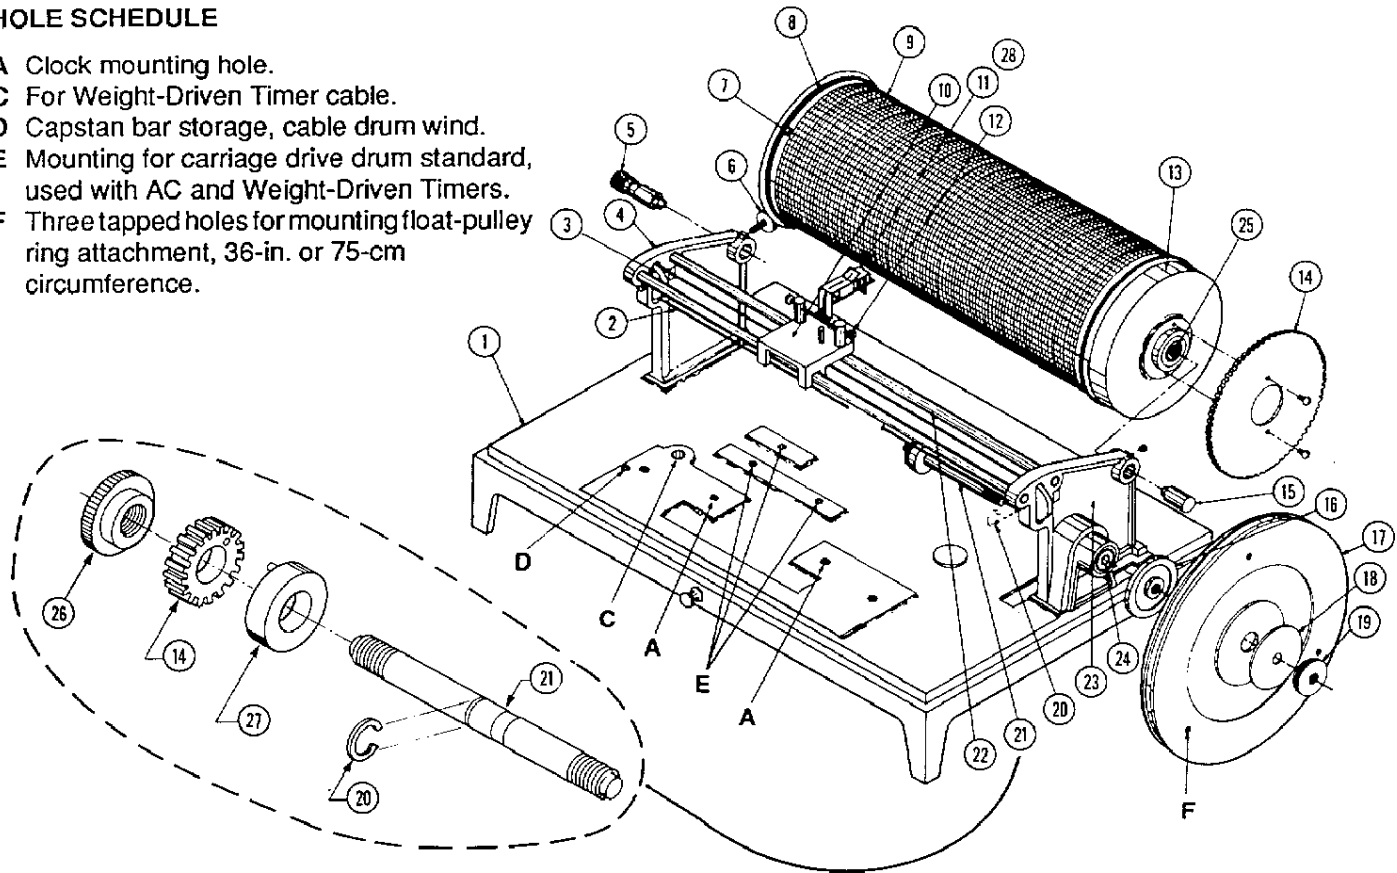

Figure 6. Exploded View of F68
Step 2. Refer to Figure 6. Roll both of the chart holder springs (item 8) to the gear end of the chart drum (item 13). Remove the used chart.
Step 3. Slip a new chart from the far side and underneath the chart drum, pulling the edges together and lapping the trimmed edge over the margin. See that the slot in the left chart margin engages the pin (Figure 6, item 7) in the chart drum. Match the lines and push the chart against the left flange of the chart drum. Replace the spring chart-bands at the left end and at the right end of the chart.
Set the marker to its approximate position by slowly pushing the marker's carriage (Figure 6, item 10) to the right.
Refer to Figure 6. Set the marker to the starting point, without changing the time scale position (Section 3.7.1), by releasing the float pulley nut (item 19) and rotating the chart drum (item 13) while holding the float pulley (item 17) stationary. Tighten the clamp nut when adjustment has been made. Note that during this adjustment the carriage should not be moved.
There are three kinds of Timers: QMT, AC Timer, and Weight-Driven Timer. All three are interchangeable in the field without special tools. The mounting holes are already present (see Figure 6, item A).
- 2a. Install two 1/4-20 x 3/4 setscrews into the threaded holes (Figure 6, "A"). Leave approximately 3/8" (1 cm) of screw extending above the base plate of the F68.